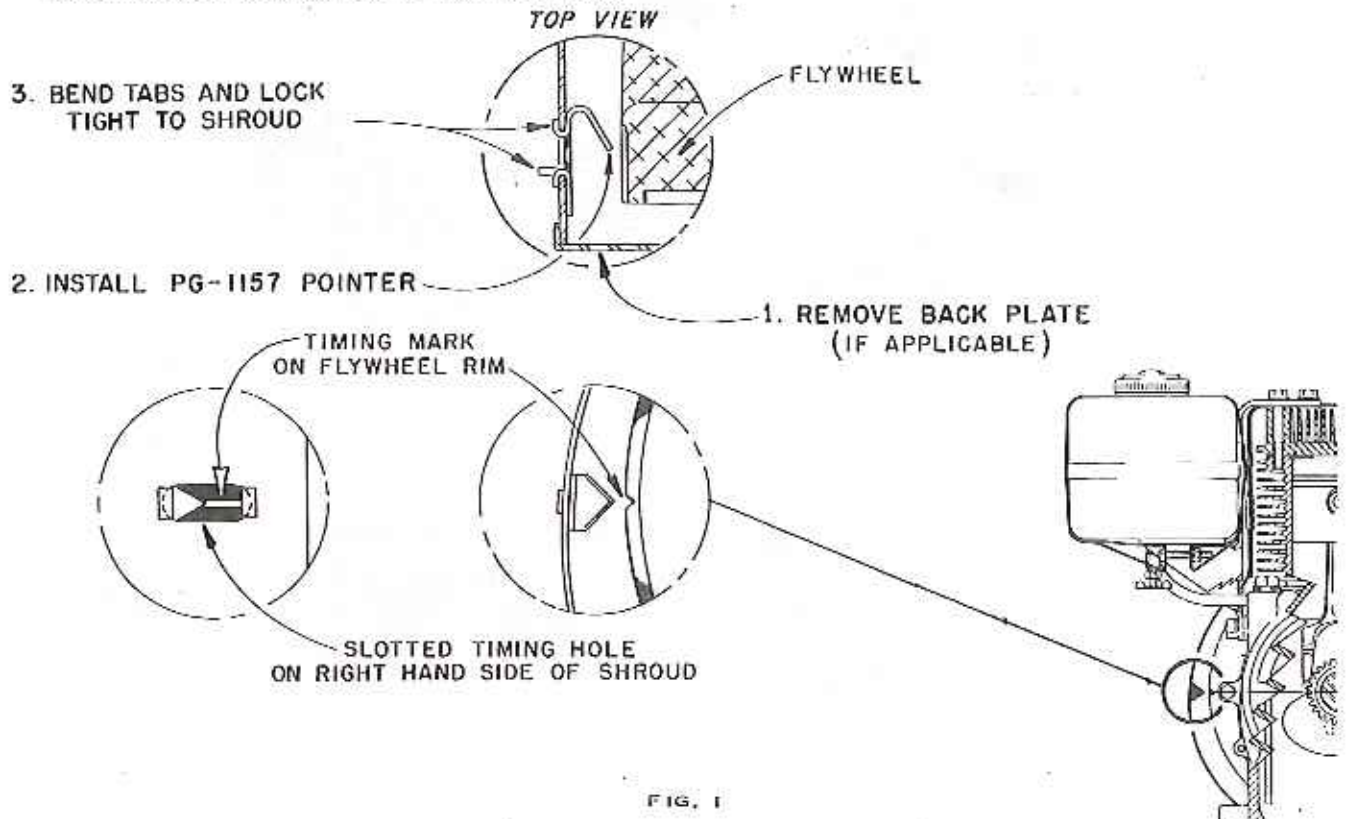

FIG. 1
A. REFER TO FIG. 1 FOR ASSEMBLY OF TIMING MARK POINTER.